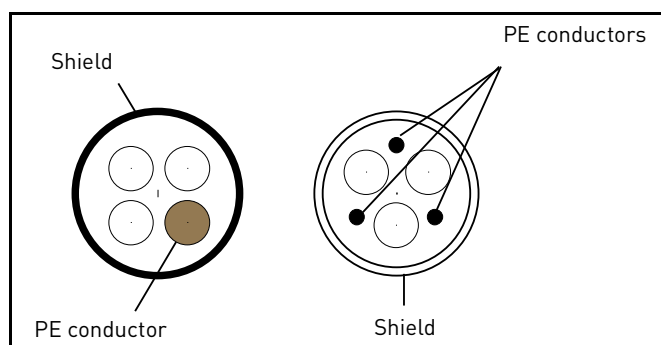

Figure 14.
- 2 = Symmetrical power cable equipped with concentric protection wire and intended for the specific mains voltage. (MCMK or similar recommended). See Figure 14.
- 3 = Symmetrical power cable equipped with compact low-impedance shield and intended for the specific mains voltage. [MCCMK, EMCCK or similar recommended; Recommended cable transfer impedance (1...30MHz) max. 100mohm/m]. See Figure 14.